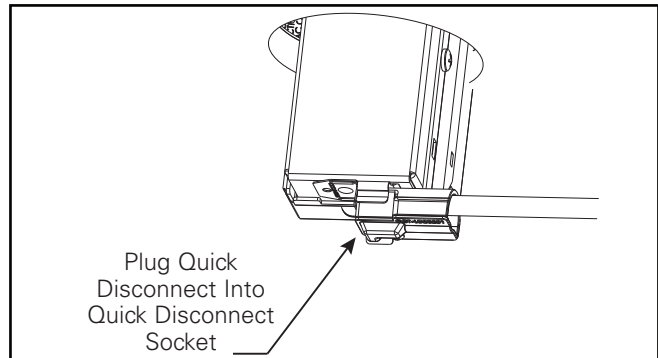

Figure 3
2. Attach the quick disconnect plug on the LED module into the quick disconnect socket (see figure 3).